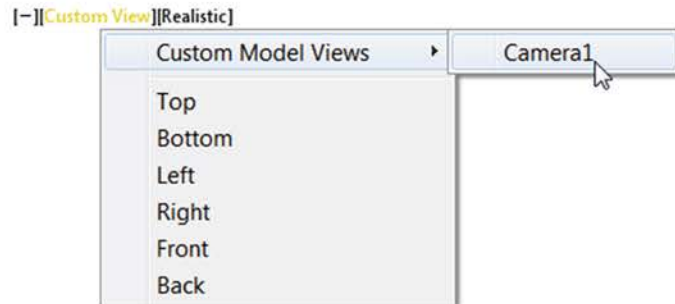
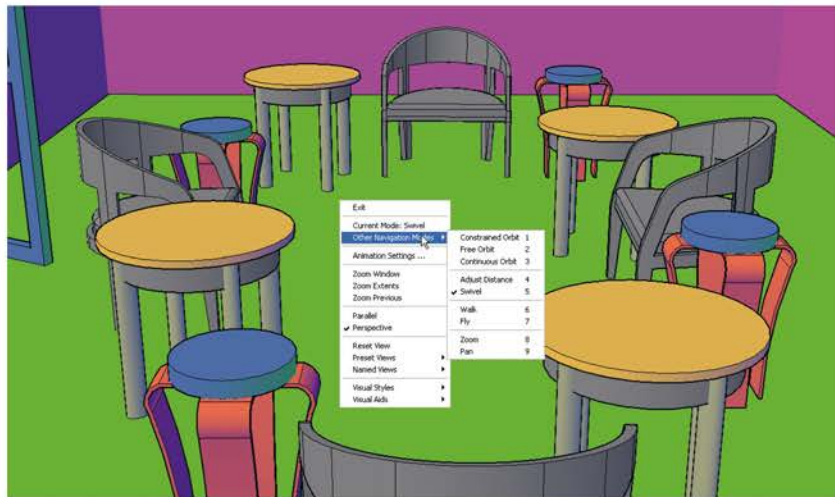

Fig. 16.47 Selecting a camera view in the viewport controls
Fig. 16.48 The camera view (Conceptual) after amendment and before render
- The camera view is now found on the **Custom Model Views** list in the viewport controls (Fig. 16.47. Fig 16.48 shows the camera view).